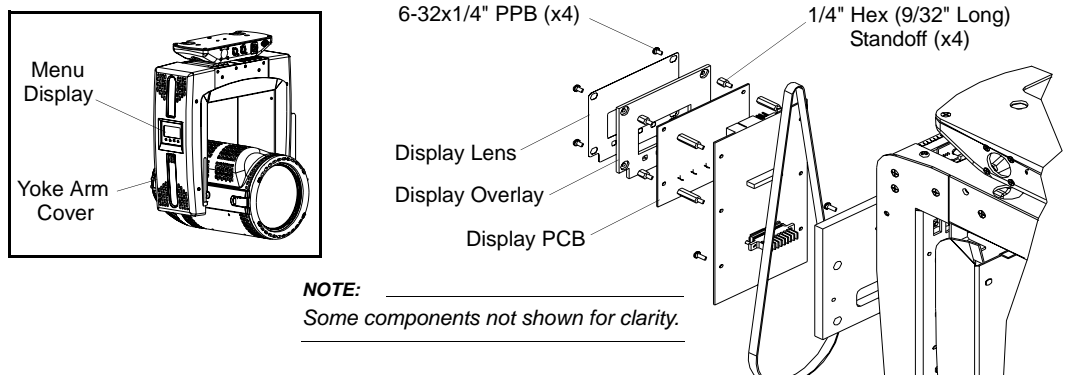

Figure 15: Display PCB Replacement
- Step 3. At display overlay, as indicated in **Figure 15**, remove four 6-32x1/4" PPB screws.
- Step 5. As indicated in **Figure 15**, remove four 1/4" hex (9/32" long) standoffs.